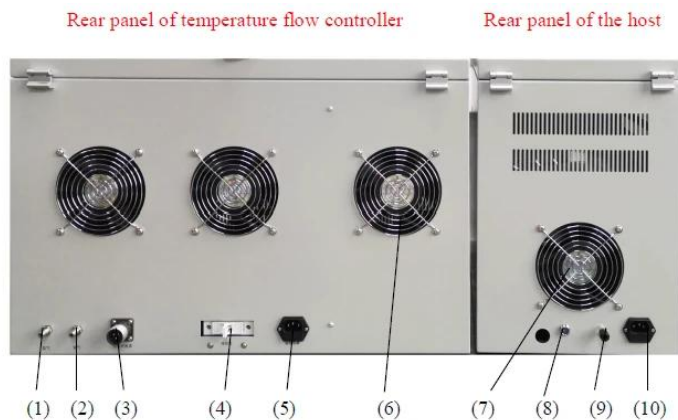

Figure 3
1. The host machine can collect the data and amplify. There are power socket, earth connection, fans and USB port on the rear panel (as shown in Figure 3)
5.6.1. Refer to Figure 3, connect temperature controller power wire, fan power wire and host machine power wire.
5.6.2. Refer to Figure 3, connect the power wire between the injector and the host machine, and connect the liquid injector and the host machine automatically injecting connection wire.